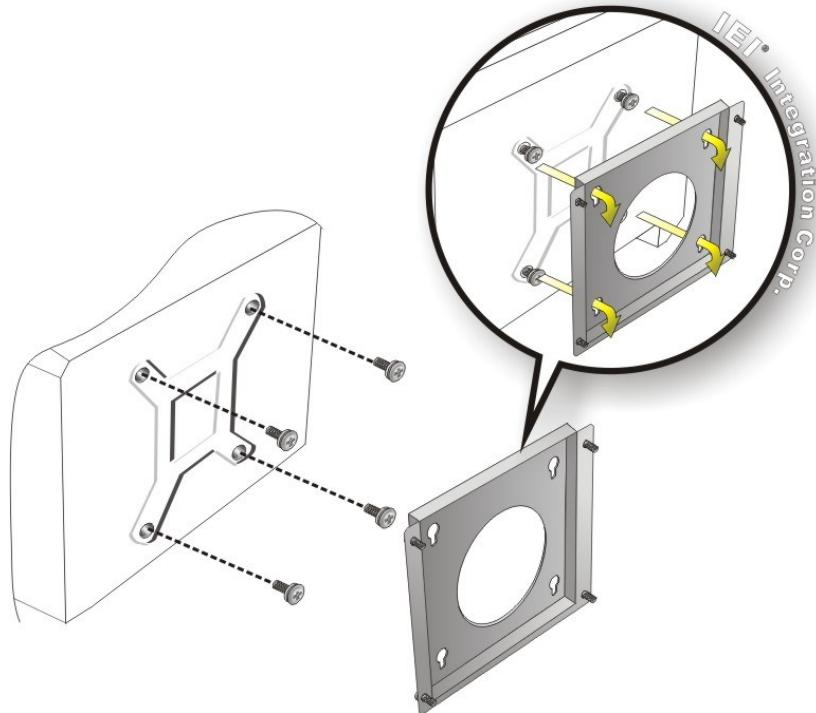

Figure 3-11: Mount the Chassis
Step 6: Insert the four monitor mounting screws provided in the wall mounting kit into the four screw holes on the real panel of the monitor and tighten until the screw shank is secured against the rear panel (**Figure 3-11**).
Step 8: Carefully insert the screws through the holes and gently pull the monitor downwards until the monitor rests securely in the slotted holes (**Figure 3-11**). Ensure that all four of the mounting screws fit snugly into their respective slotted holes.